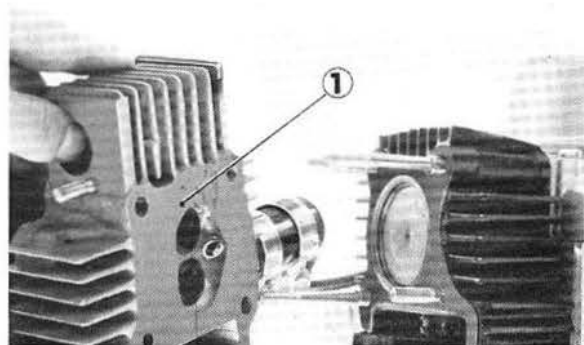

Fig. 2-8 ① Cylinder head
5. Unscrew four 6mm nut, a 6mm screw and then separate the cylinder head from the cylinder, (Fig. 2-8)